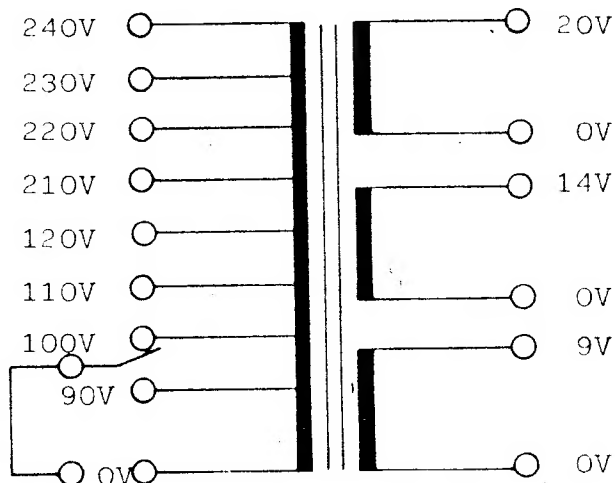

Fig. 7
(2) The color video monitor of Taito "SPACE CHASER" is for exclusive use, therefore, it can not be replaced with that of other models.
9. Adjustments of Supply Voltage (See Fig. 7)